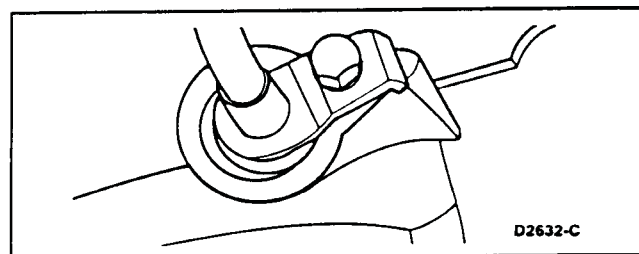

FIG. 5 Speedometer Cable and Bracket
7. Remove the speedometer cable from the extension housing (Fig. 5).
4. Remove the speedometer cable from the extension housing (Fig. 5).